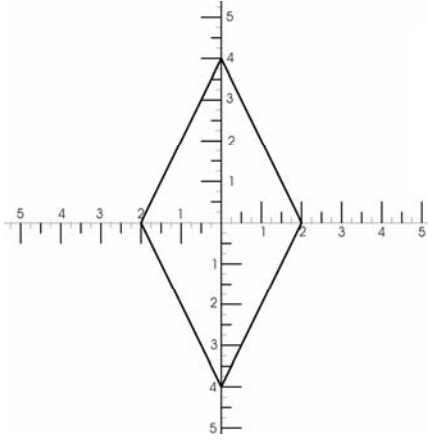

figure 1
1. Using the **Diamond Master** sheet. (included AND downloadable at cuttersmate.com), draw and cut out your desired diamond. (figure 1)